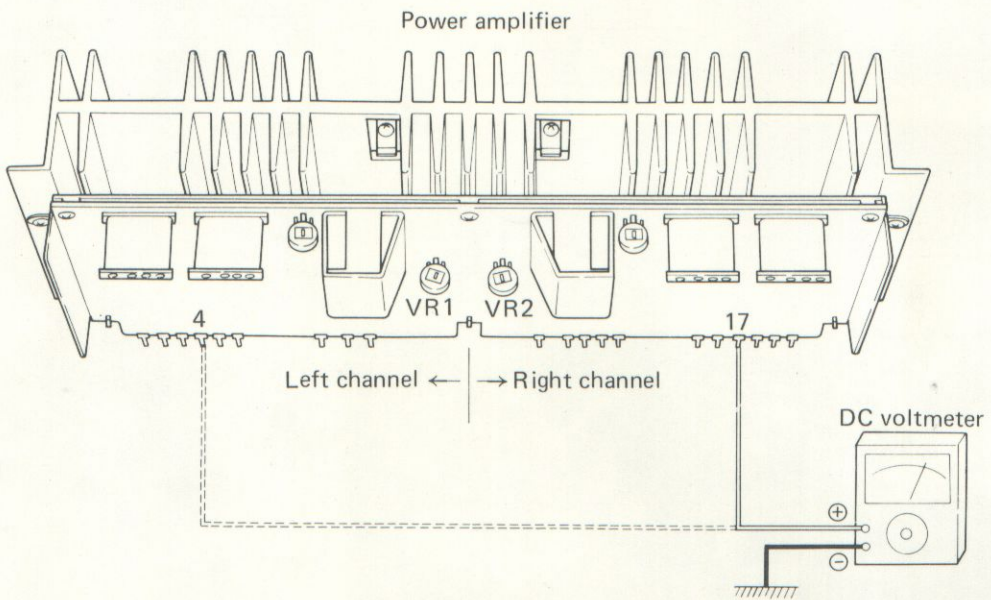

Fig. 32
1. Connect DC voltmeter as shown in Fig. 32.